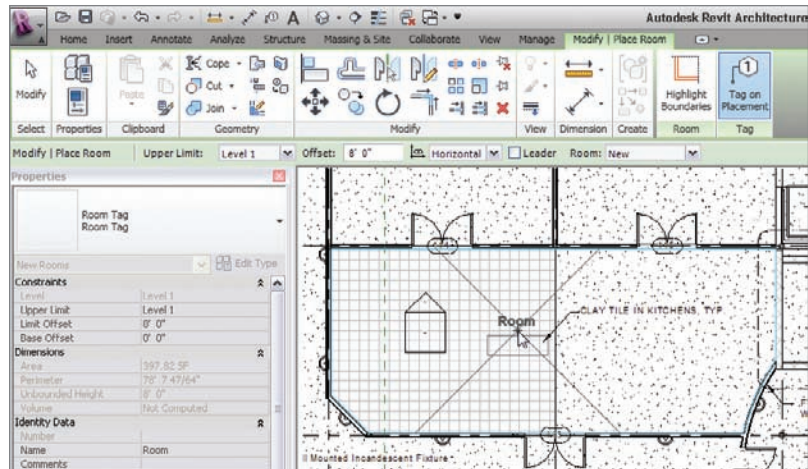

FIGURE 15.24 Place a room over the tiles (it will spill into the adjacent room).
1. In the Level 1 floor plan, zoom in on the area shown in Figure 15.24.
3. Place a room over the top of the tile flooring, as shown in Figure 15.24.